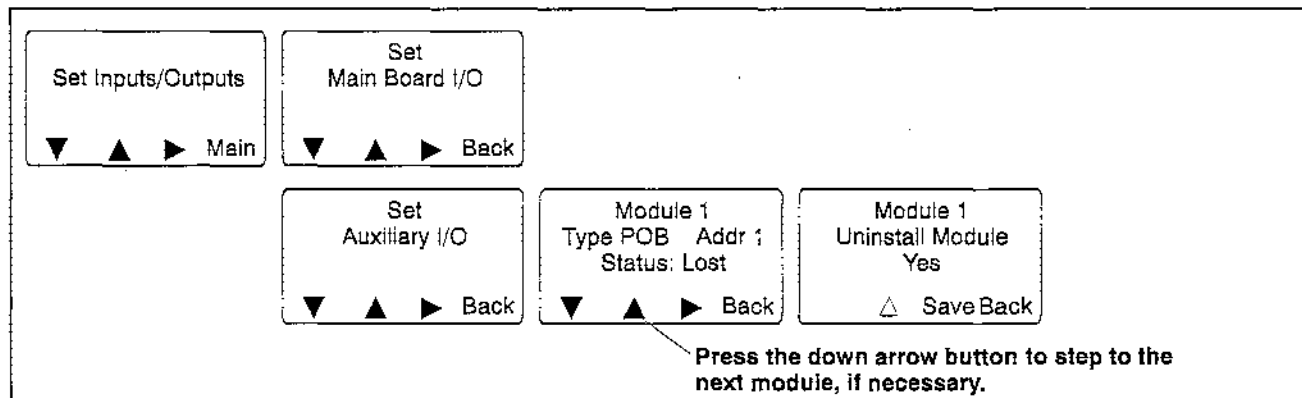

Figure 8-10 Uninstall Module
5. Navigate to the Set Auxiliary I/O screen. See Figure 8-10. Press the right arrow button to see the status of module 1. Press the down arrow to step to the next module, if necessary, until the screen shows Status: Lost.
10. Navigate to the Set Auxiliary I/O screen to check the status and settings for the new module. See Figure 8-10. Press the right arrow button to see the status of module 1. Press the down arrow to step to the next module, if necessary.